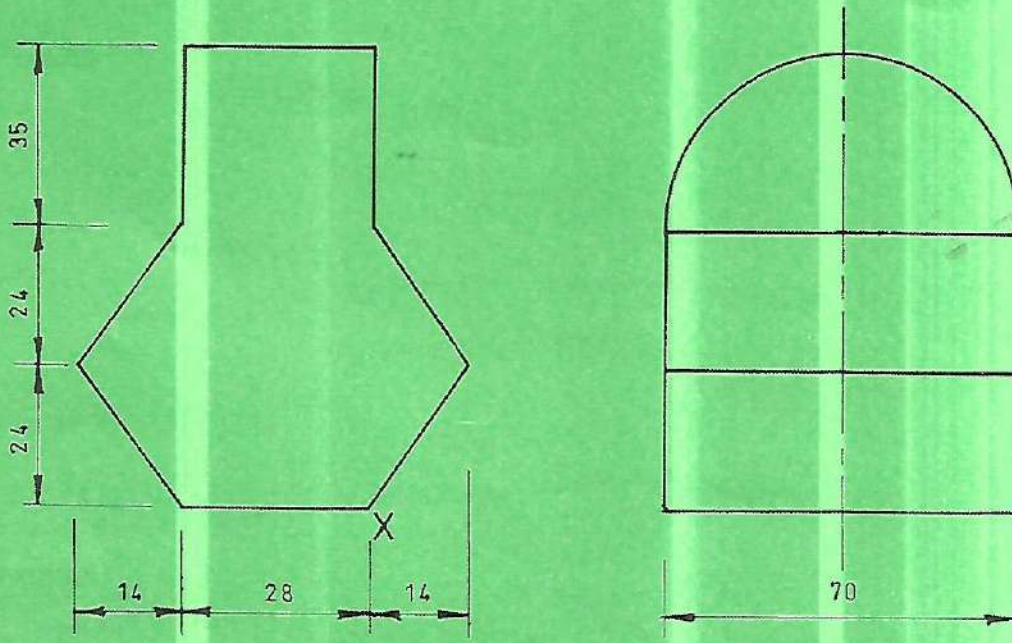

Fig.6
6. **Figure 6** shows two views of a shaped block drawn in 1st angle projection. Draw a full size view of the block in isometric projection. Take point X as the lowest point. (20 marks)